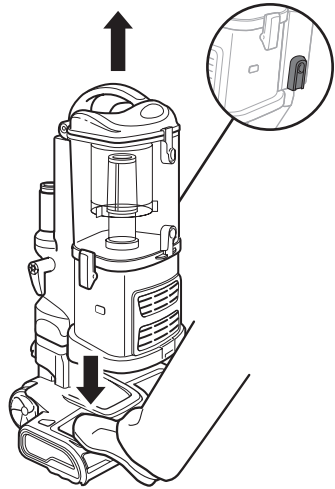

Fig. 8
- 1 Separate the portable Lift-Away canister from the floor nozzle by pressing the red release button (a) on the side of the canister. Gently step on the floor nozzle and lift off the canister by the carry handle on top of the dust cup. (Fig. 8)